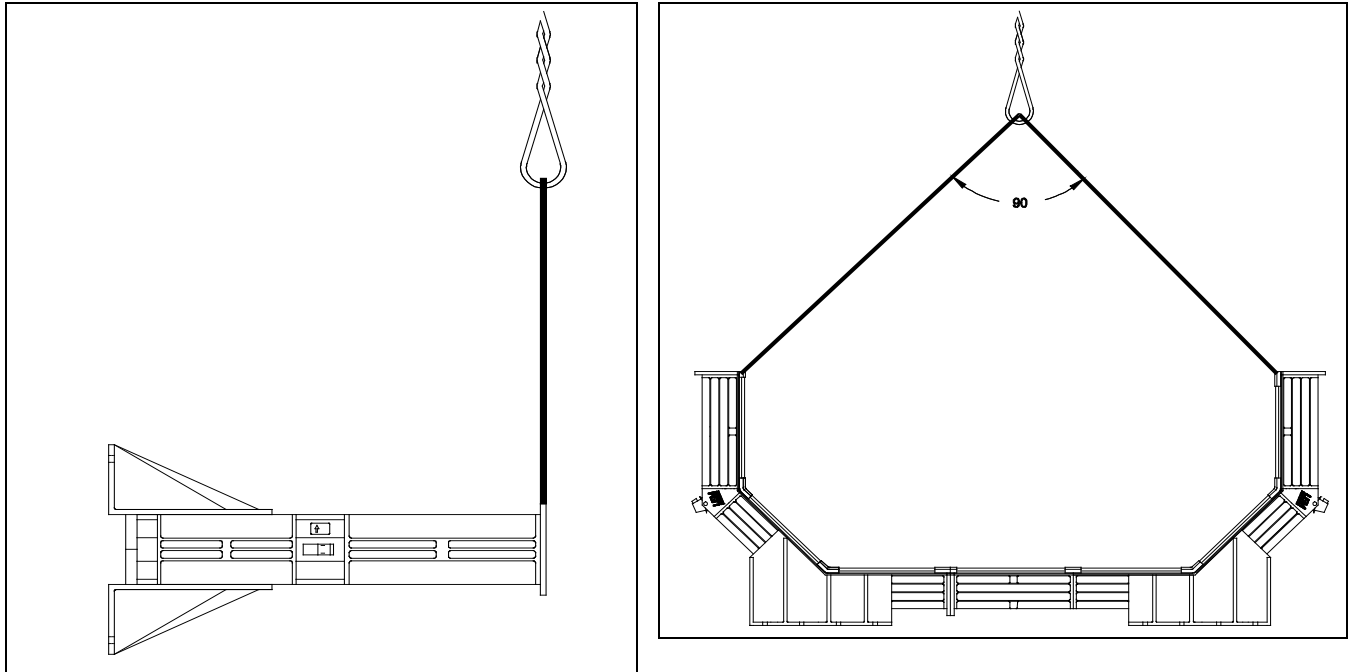

Figure 5.3 Setting The Lower Head Half Upright.
- 3.) To set the lower head half upright, secure the mounting straps under the two fastening flanges as shown in the Figure 5.3.